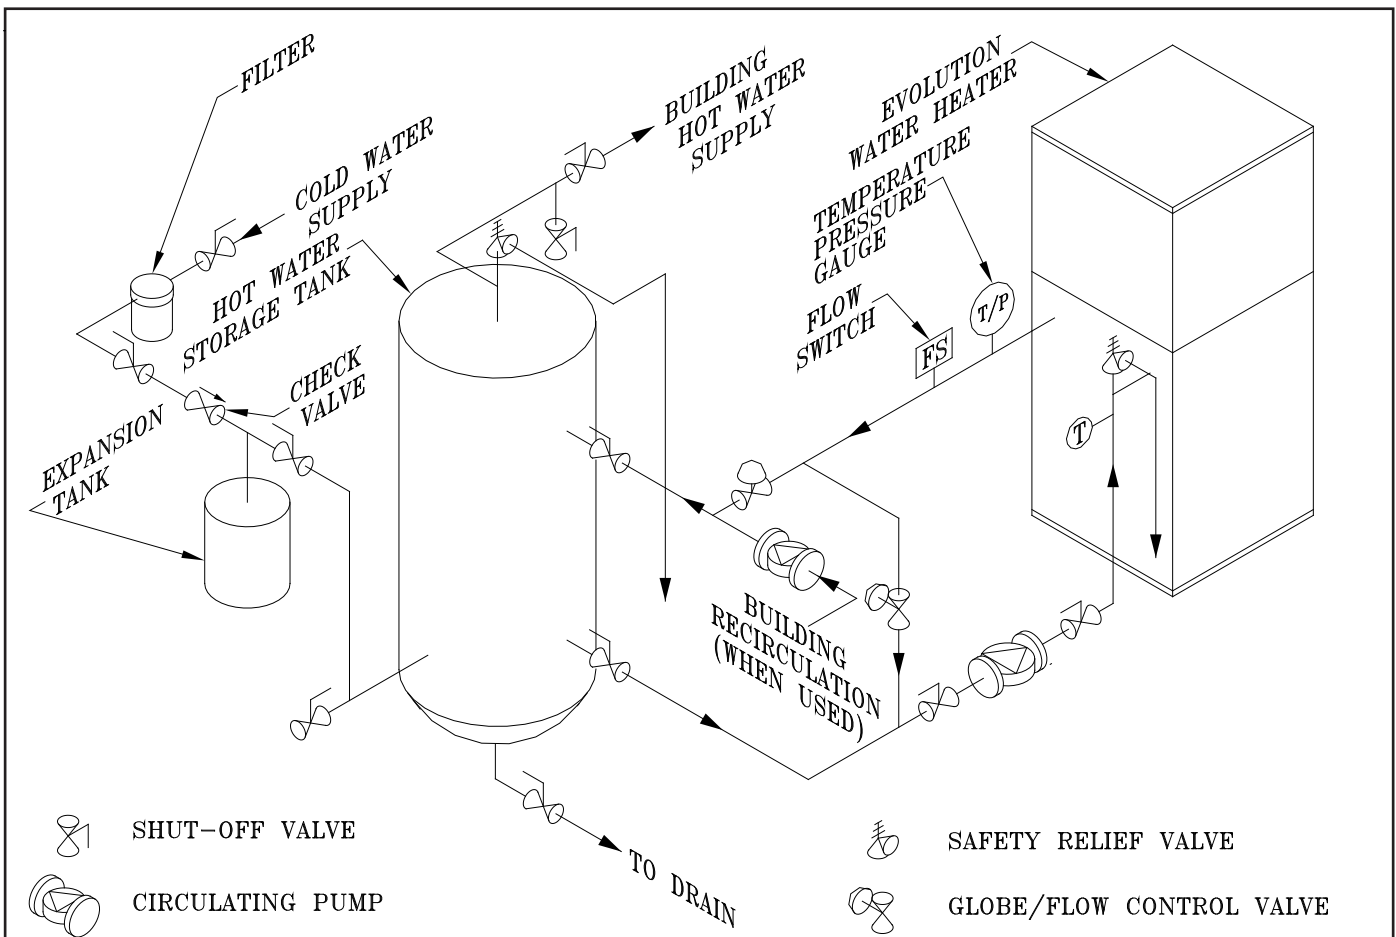

Figure 8: Water Piping
3. Connect system supply and return piping to water heater. Refer to Figure 8. Also consult I=B=R Installation and Piping Guides. Maintain ½" minimum distance between water piping and combustible material. Consult Thermal Solutions for unusual system requirements.